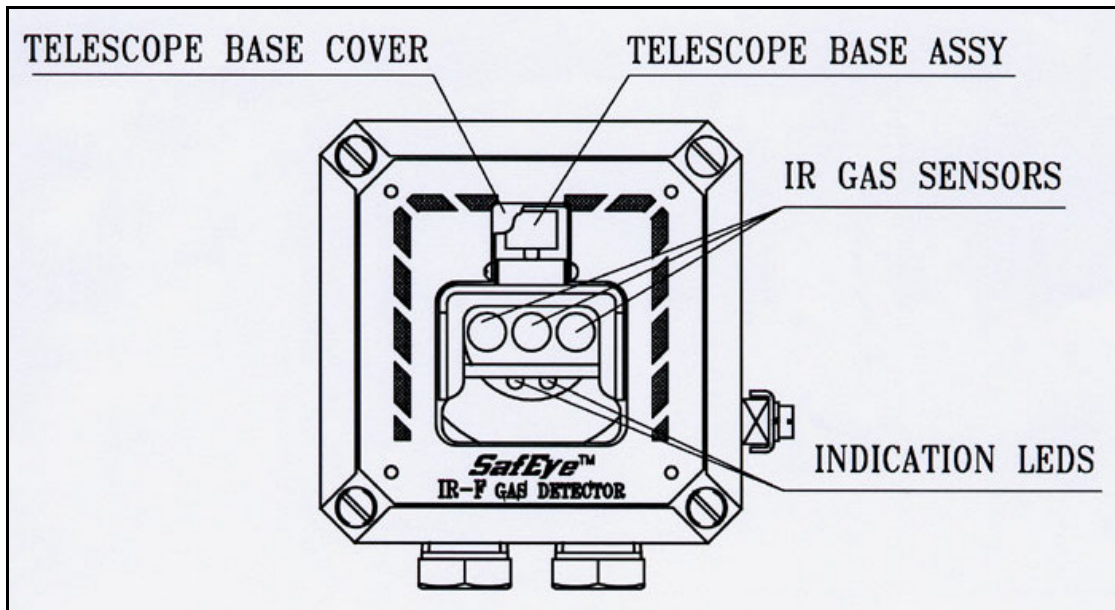

Figure 3: Detector
2.6.2 Detector Unit (Figure 3)